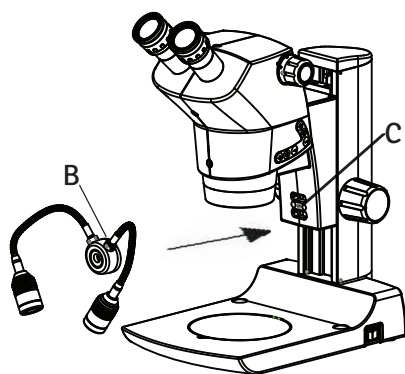

Fig.3
2. Take Goose neck LED assembly (B) and connect the goose neck connectors. refer fig.3.